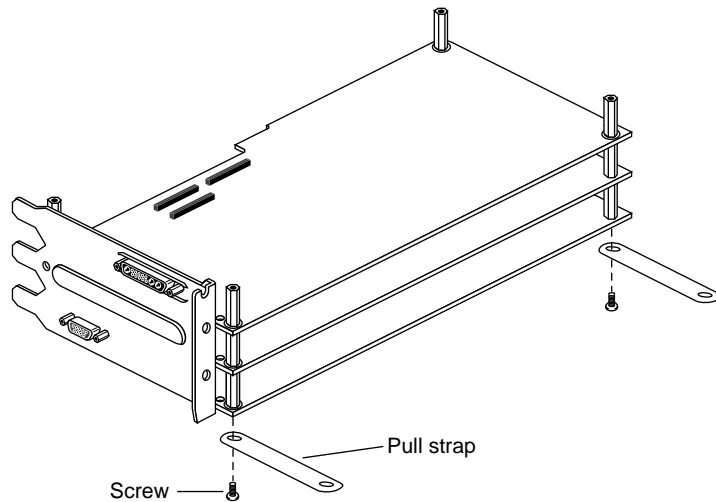

Figure 2-13 Removing the Screws That Attach the Pull Straps
4. Remove the screws that attach the pull straps to the bottom of the graphics board set (Figure 2-13). You can turn the board set up-side down and rest the board on the standoffs to replace the pull straps. You can throw away the old pull straps.
- Replace the screws. See Figure 2-13.